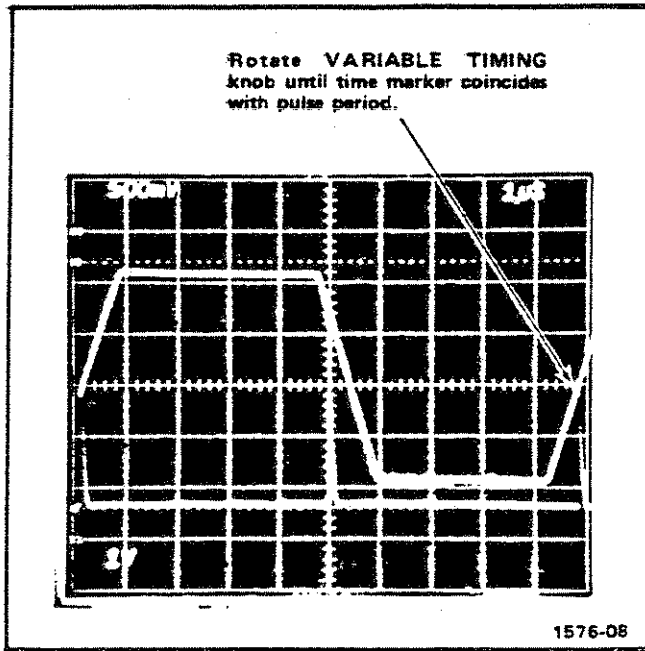

Fig. 2-7. Measuring pulse period.
10. To check pulse period, rotate the VARIABLE TIMING knob until time marks coincide with pulse period. See Fig. 2-7.